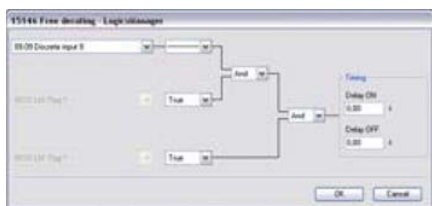

Fig. 250: LogicsManager function "Free derating"
- Configure the LogicsManager function "Free derating" as shown in (Fig. 250) to enable derating of power if discrete input [DI 09] is energized.